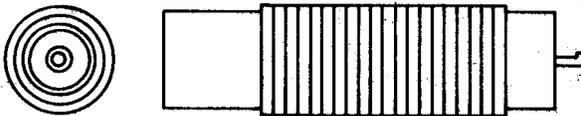

Fig. 8—509A or B Jack
2.08 509A and B: The 509A and B (Fig. 8) are coaxial-type jacks. They are used with the 358A and similar-type plugs. The test voltage is 2000 volts ac.